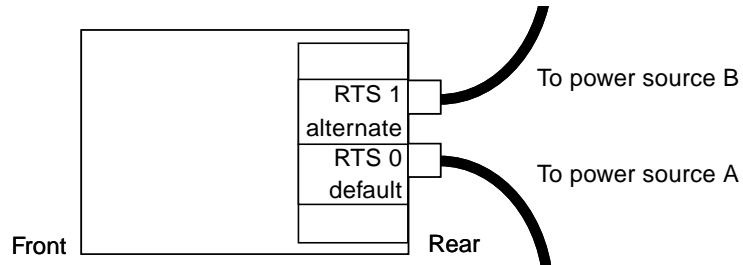

FIGURE 3-2 One RTU Assembly and Two Independent AC Power Sources
- In configurations with one RTU assembly and two independent AC power sources there will be two cables to connect, both in the rear of the system (FIGURE 3-2).